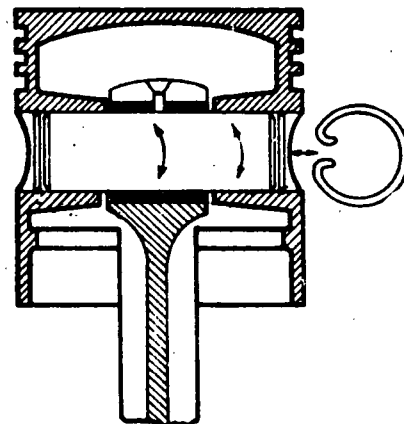

Fig. 7
- Loose in the piston and in the connecting rod (fig. 7).